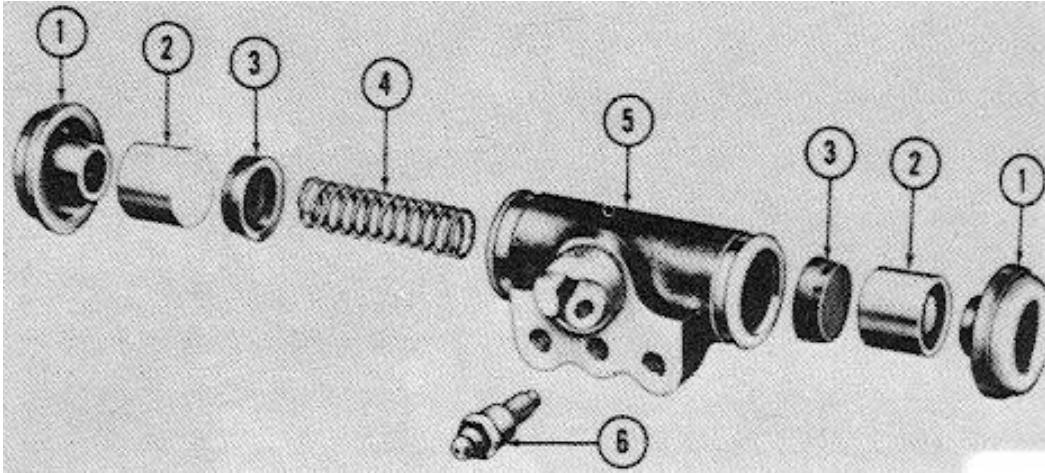

Figure 2-83. Wheel brake cylinder
- (3) Wheel cylinders. (Fig 2-83)